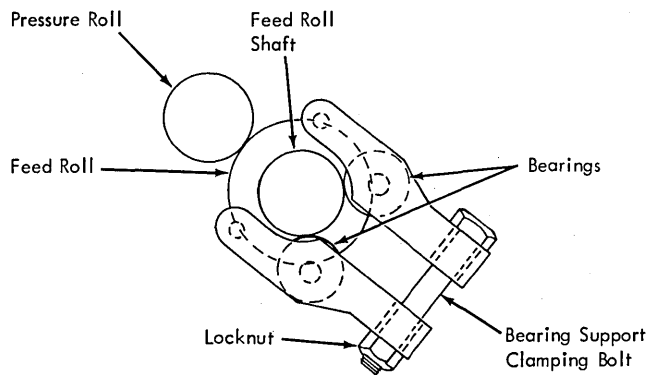

Figure 4-96. Center Bearing Support
2. Tighten the clamping screw of the center bearing support (Figure 4-96) until the feed-roll shaft deflects causing the armature gap of the feed magnet to increase slightly.